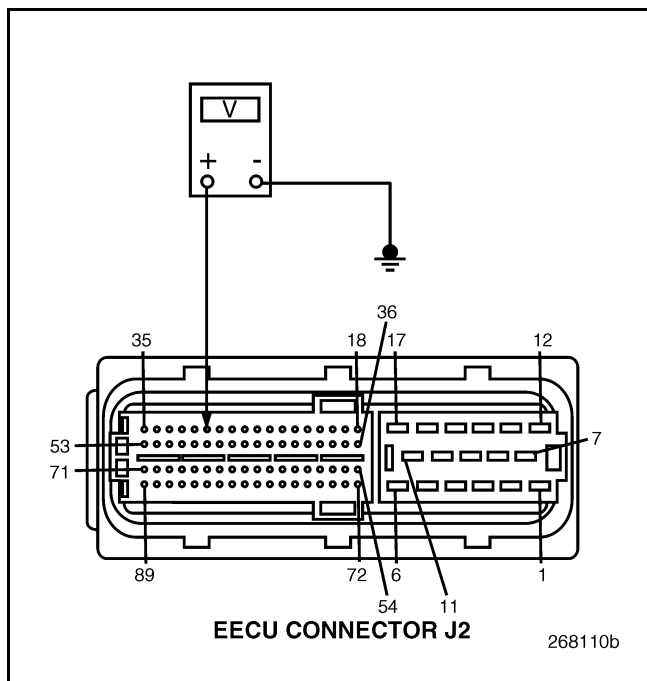

Figure 830
4. Measure the voltage between EECU connector J2 pin 30 and a good ground (see Figure 830).